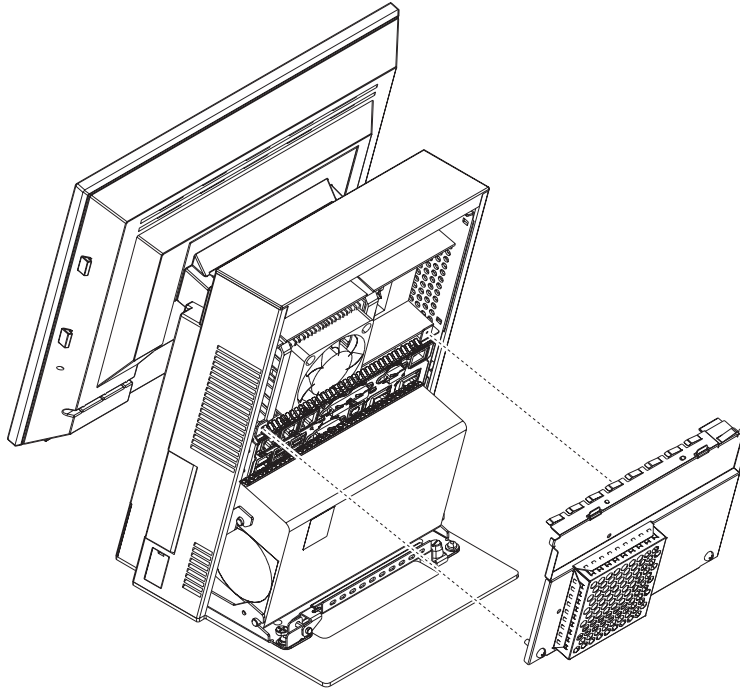

Figure 55. Rear inner metal cover
3. Loosen the two captive crews shown in Figure 55 and pull the cover out.